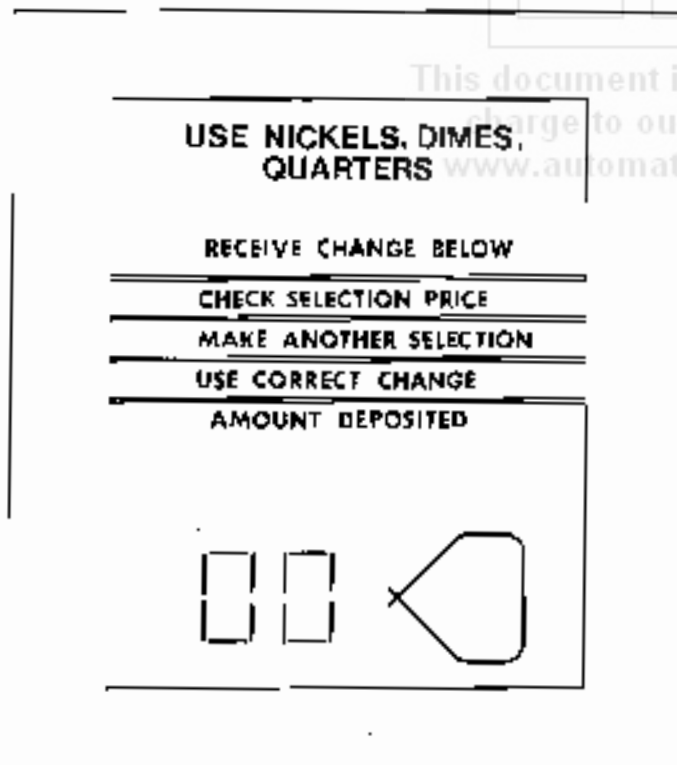

Figure 13.
- B. Press the letter and then the number for the first selection to be checked. The price display will show the price that selection is programmed for (Figure 13). Check the displayed price against the price tag on the shelf for that selection.